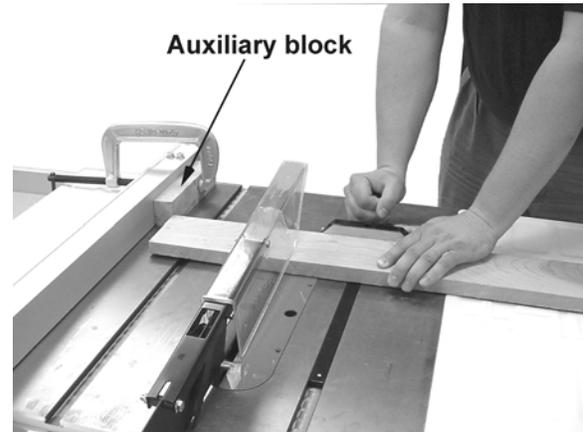

Figure 31
- ❑ Do not use the miter gauge and rip fence in the same operation unless provision is made by use of a facing board on the fence so as to allow the cutoff section of the workpiece to come free before the next cut is started (See Figure 31).
Crosscutting should **never** be done freehand nor should the fence be used as an end stop unless an auxiliary block is clamped to the front of the blade area such that the cutoff piece comes free of the block before cutting starts (Figure 31).